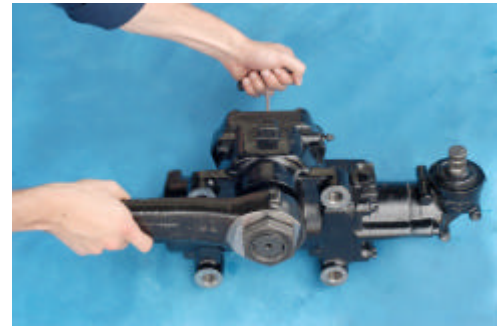

Figure 6
6. To adjust, slowly turn the shaft adjusting screw clockwise until no lash is felt at the pitman arm. (Use no more than 14 Nm of torque). From this no lash position, turn screw clockwise an additional 1/8 to 1/4 of a turn. Hold the adjusting screw in place, and tighten the jam nut (45). Final torque: as per Torque Chart. SEE FIGURE 6.